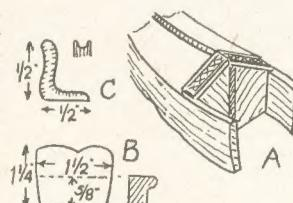

Fig. 3—Shape at the prow
At this particular part a decorative strip, or rather two separate strips, is glued, as in detail (A) Fig. 3. These strips are cut ½in. wide, from the ½in. fretwood, and glued in place, being mitred together neatly where they meet at the centre. A little carving is done to these with a file or penknife, as in the diagram, nothing elaborate need be attempted, just